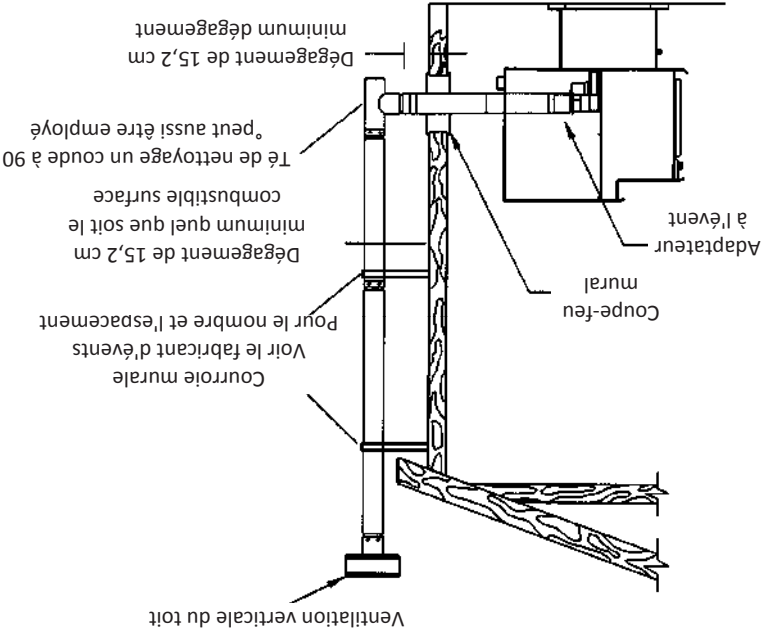

FIGURE 8
A. HORIZONTALEMENT À TRAVERS UN MUR (cf. Figure 8)